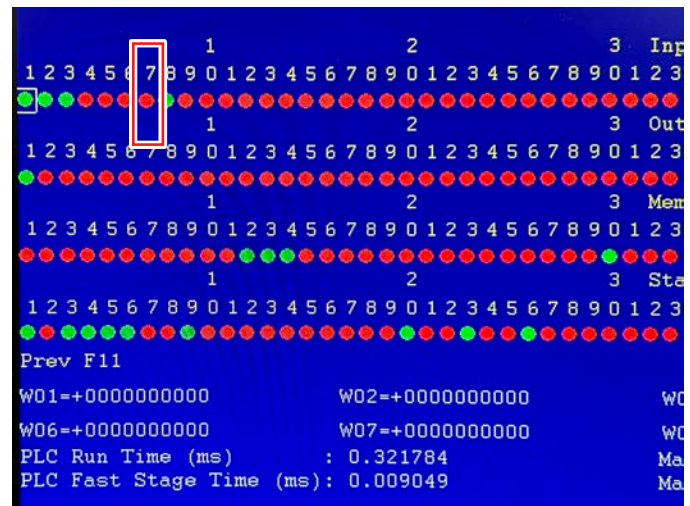

FIGURE 26
A. On your keyboard, press (Alt + I). This will bring up the Input/Output screen on the control monitor. Without any contact between the tool and the tool setter, Input #7 will be red (see Figure 26).